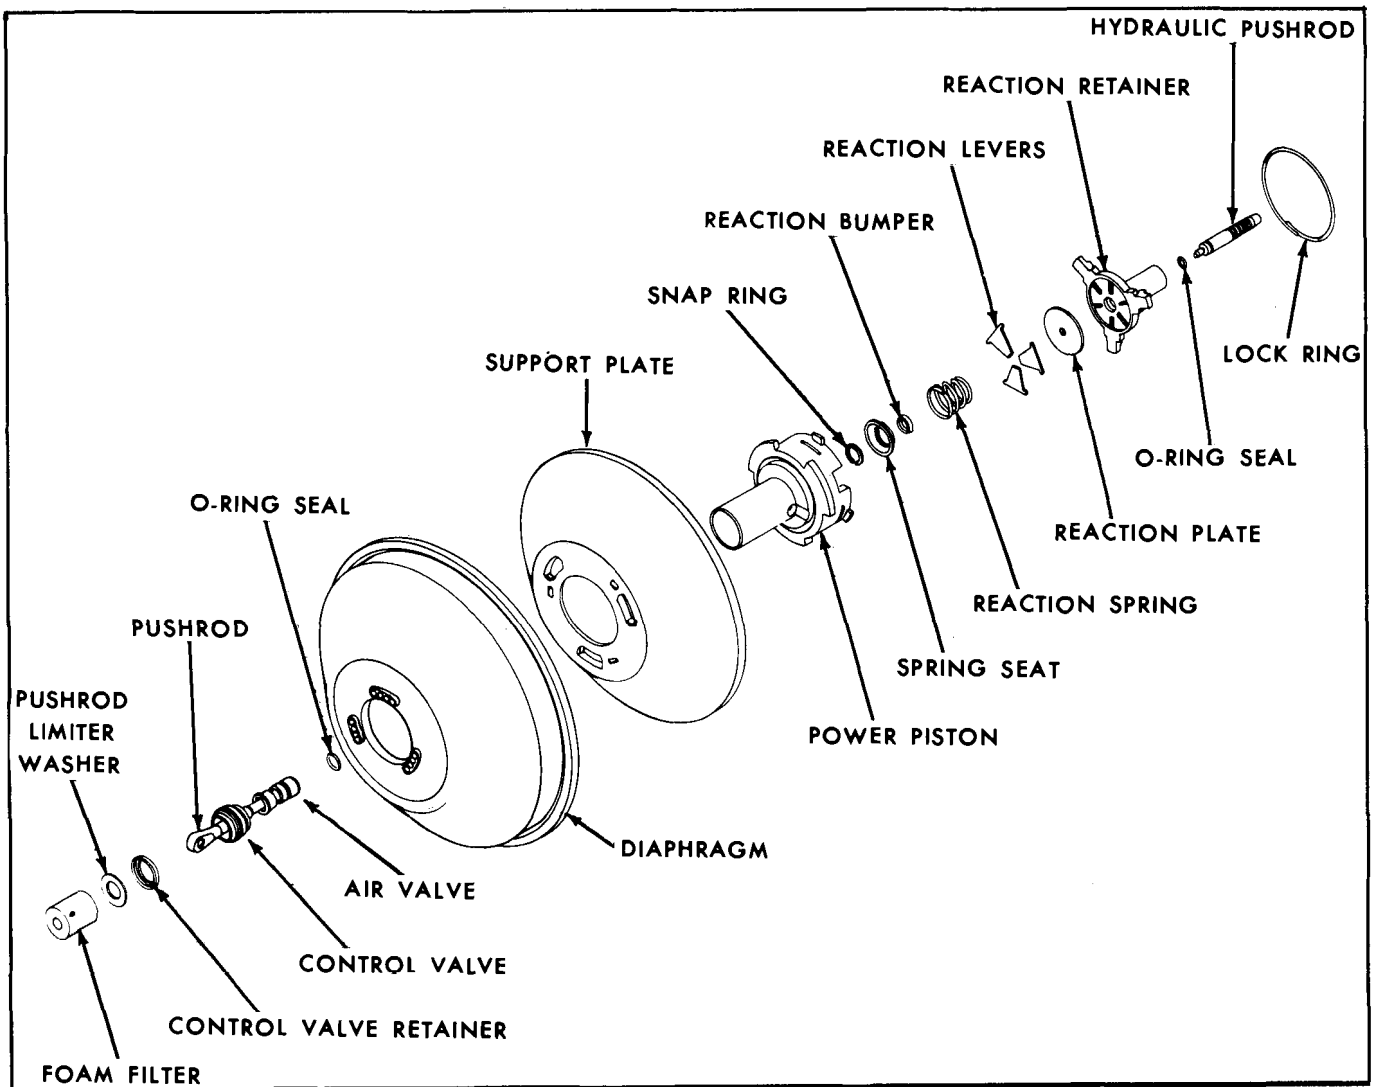

Fig. 5A-5 Exploded View of Power Piston
12. Press air valve from power piston hub using rod not exceeding 1/2" diameter. Removal of valve releases floating control valve, floating valve retainer, push rod limiter washer and air filter materials (Fig. 5A-10).